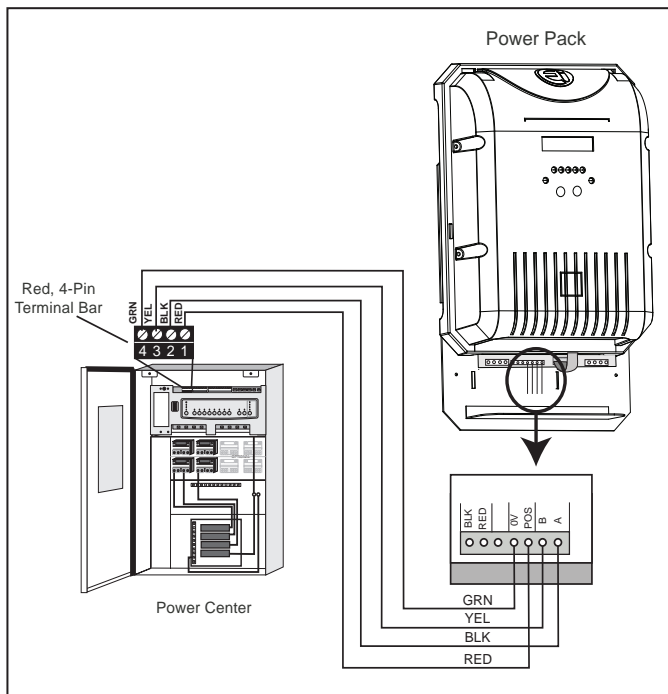

Figure 20. Communication Wiring between Power Pack and AquaLink RS or PDA Power Centre
7. The AquaLink RS or PDA and power pack use a four (4) wire connection to communicate and can be wired up to 152.4 m (500 ft) apart. Any outdoor rated four conductor cable, minimum 0.33 mm² (22 AWG), can be used. Locate the appropriate screw terminals on the circuit board and wire the power pack to the AquaLink RS or PDA red 4-pin terminal bar (see Figure 20).